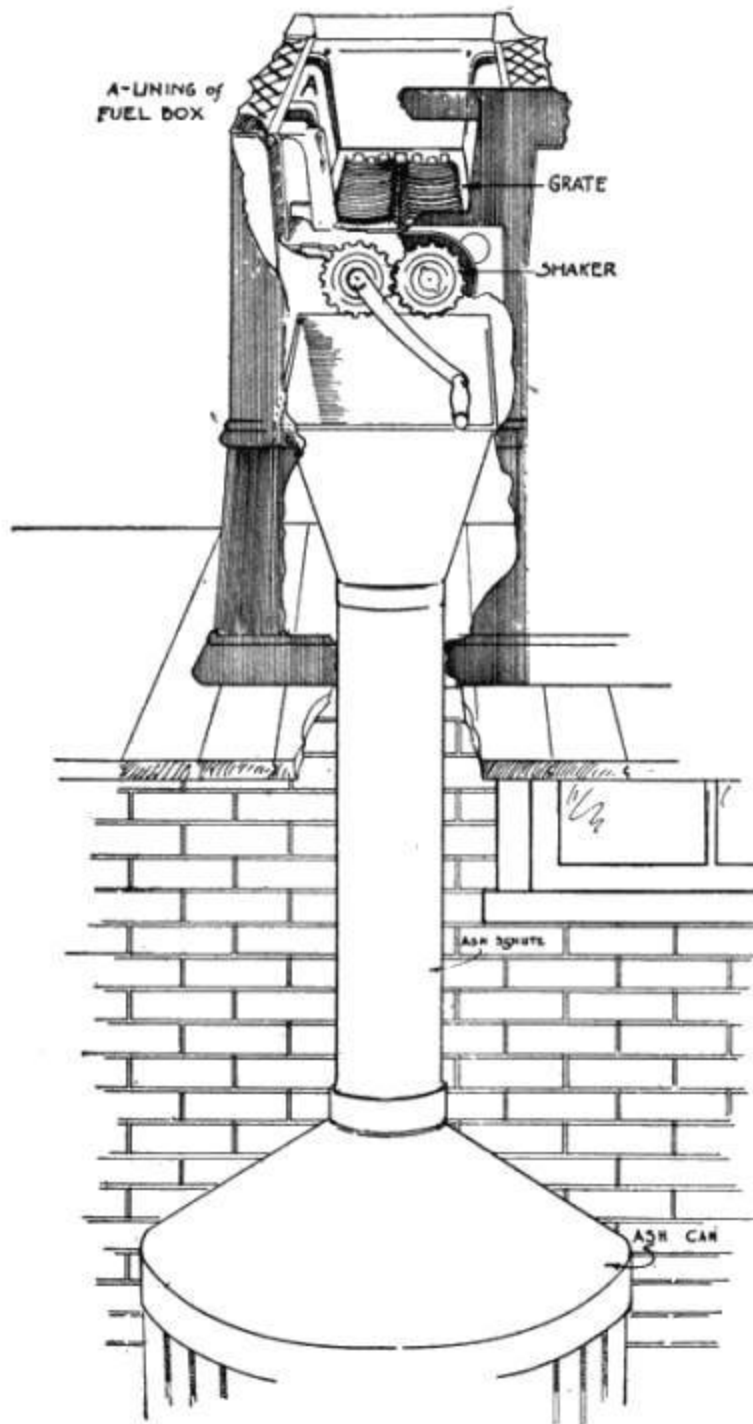

FIG. 3. Ash chute.
8. Ash Chutes. In some modern houses, there are ash chutes which carry the ashes directly from the kitchen stove to a receptacle in the basement (Fig. 3). These have to be installed with care. If there is a draft of